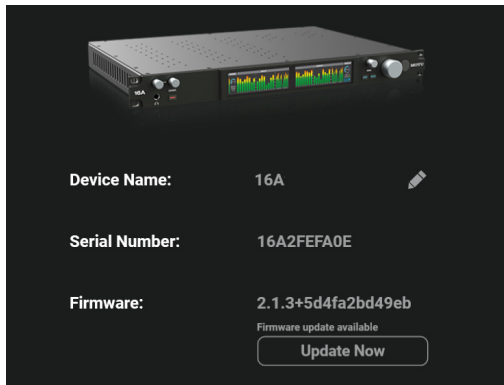

Figure 6-10: Go to the Device tab to see if there is a firmware update available.
- 2 Go to the Device tab and look at the *Firmware* setting (Figure 6-10).
- 3 If your computer has access to the internet, and there is a firmware update available, you'll see the *Update Now* button (Figure 6-10). Click it to update your firmware.